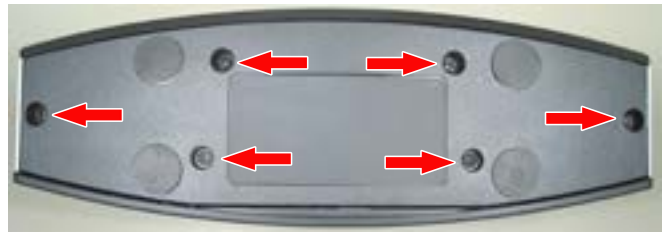

Figure 3. Bottom Cover
1.1 Remove the 6 screws indicated in Figure 3.